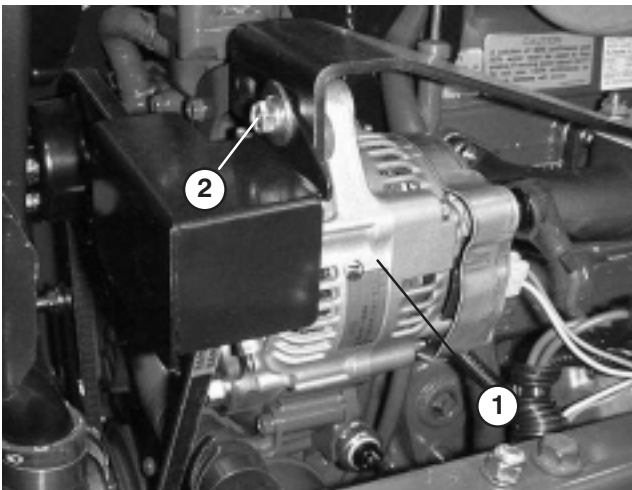

Figure 51
2. Proper tension will allow 3/8 in. (10 mm) deflection when a force of 10 lbs. is applied on the belt (Fig. 51) midway between the pulleys.